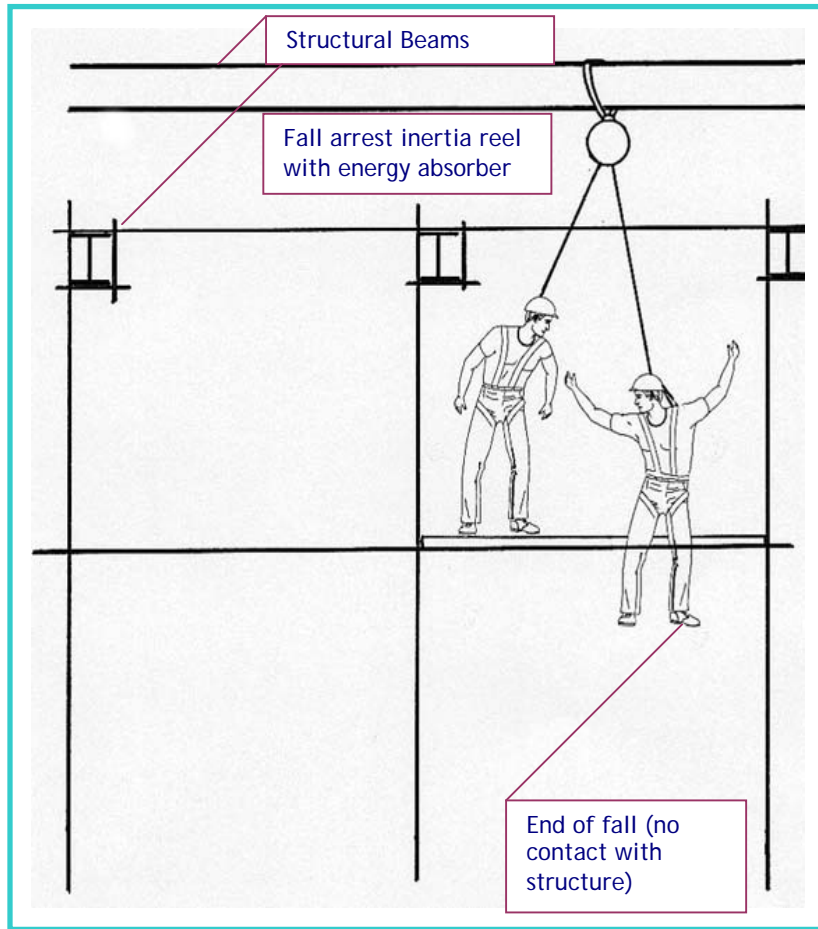

Figure1: Appropriate use of a harness system in the erection and dismantling of a hung scaffold.
- it is possible for scaffolders to hit an object prior to their fall being arrested (*See Figure 1*)
- On hung scaffolds, where the scaffold is constructed from top to bottom and there is nothing for the scaffolder to strike below in the event of a fall (*see Figure 1*).